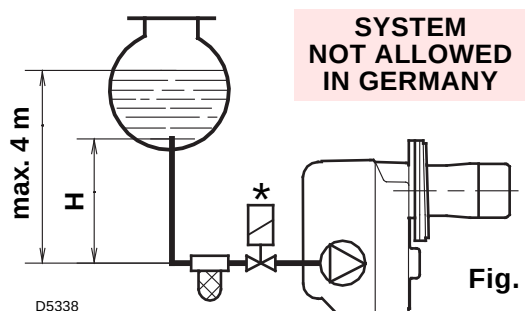
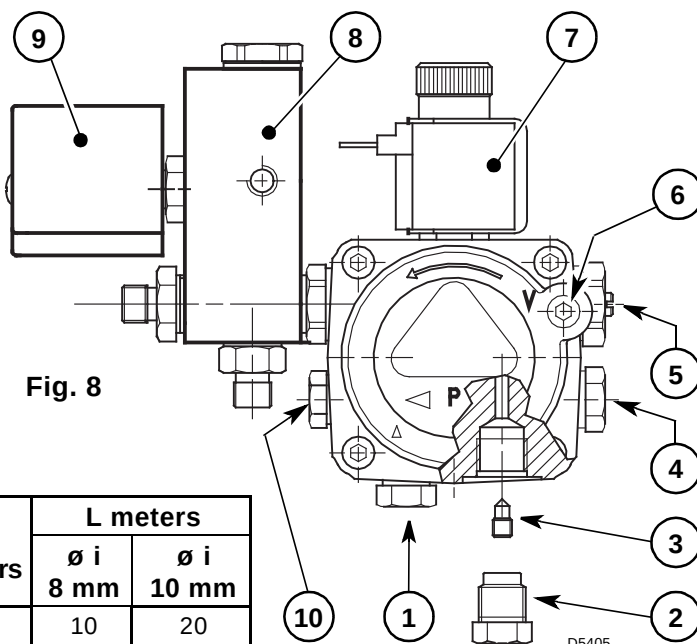

Fig. 7
Fig. 8
- The pump is designed to allow working with two pipes. In order to obtain one pipe working it is necessary to unscrew the return plug (2), remove the by-pass screw (3) and then screw again the plug (2). (see fig. 8).
On the system in fig. 7 it is sufficient to loosen the suction gauge connection (6, fig. 8) and wait until oil flows out.